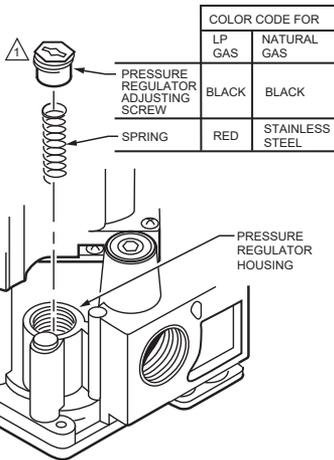

Fig. 4. Conversion kit installation in regulator.
4. Insert the replacement spring. Refer to Fig. 4.